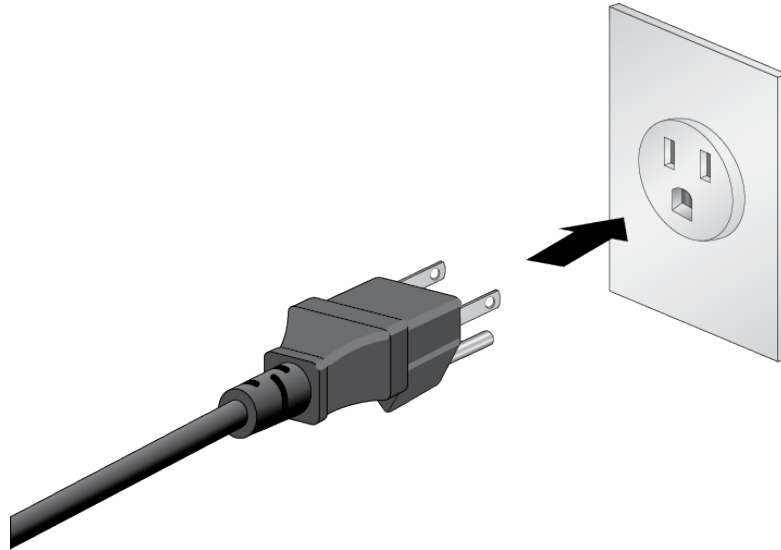

Figure 105. Connecting the Power Cord to an AC Power Source
3. Connect the power cord to an appropriate AC power source. Refer to Figure 105 on page 160.